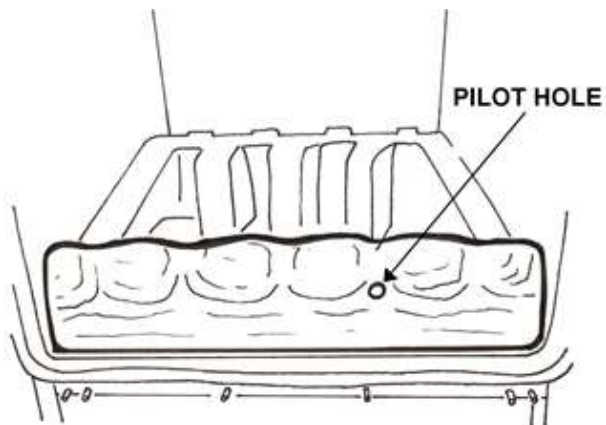

FIGURE 2. PILOT LOCATION
(See Figure 2).
1. Whilst pushing the IGNITION KNOB in (see **Figure 2**), turn it anticlockwise to the pilot flame position as shown in **Figure 3**. During this process, the spark ignition will have operated and lit the pilot flame. On lighting the pilot flame continue to depress the ignition knob for a further 15 - 20 seconds then slowly release. The pilot flame should stay alight. If the flame goes out, repeat the procedure above to establish the pilot. Due to safety and the efficient way the fire works, it is not unusual for the pilot to stay alight only after the second or even third attempt.